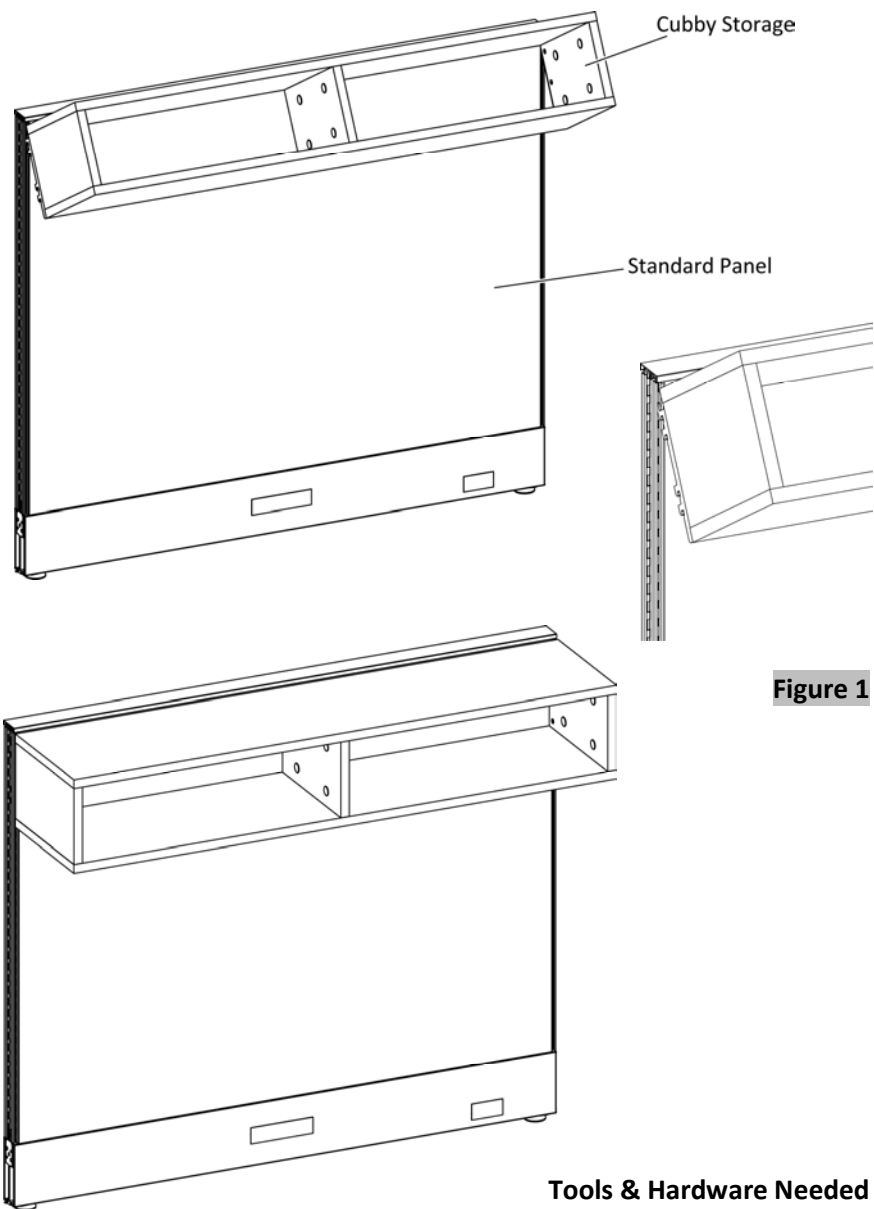

Figure 1
- 1. Angle the cubby storage at 30 degrees angle, (Figure 1).